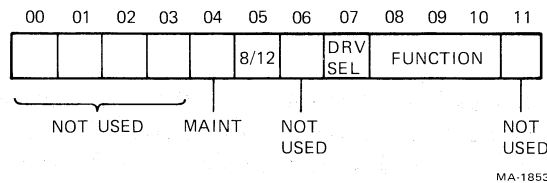

Figure 4-1 LCD Word Format (RX8E)
4.1.2.1 RX8E Load Command (LCD) - 67x1 - This command transfers the contents of the AC to the interface register and clears the AC. The RX02 begins to execute the function specified in AC 8, 9, and 10 on the drive specified by AC 7. A new function cannot be initiated unless the RX02 has completed the previous function. The command word is defined as shown in Figure 4-1. The command word is described in greater detail in Paragraph 4.1.3.1.